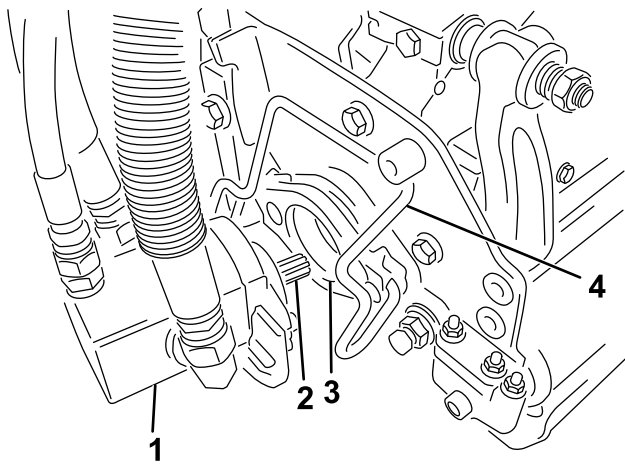

Figure 47
5. Coat the spline shaft of the cutting unit motor with clean grease (Figure 47).
6. Insert the motor into the left side of the cutting unit (as viewed from the operator's position) and pull the motor retaining bar on the cutting unit toward the motor until you hear a click from both sides of the motor (Figure 47).